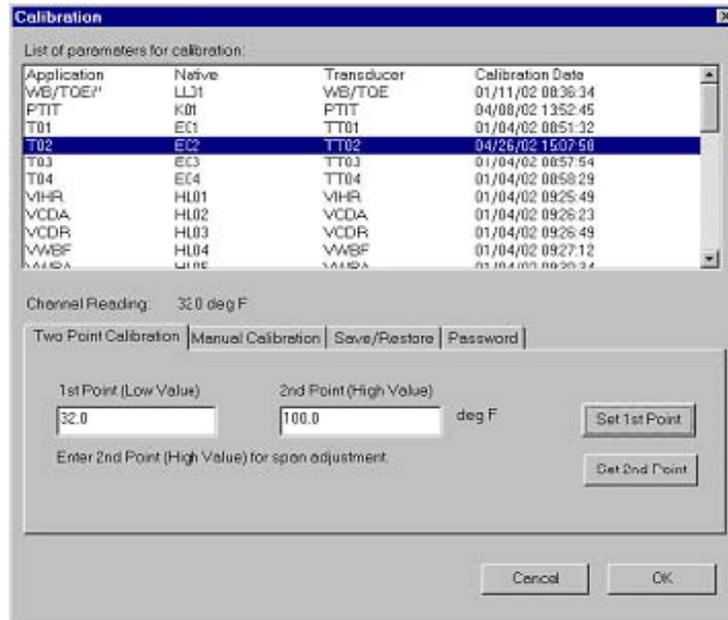

Figure 6. Calibration Set Point Screen
- (8) Click the desired application and OK. Calibration screen, Figure 6, will appear.
- (2) Perform the following Calibration Procedures.
- (3) Select the channel to be calibrated and double click. The operator will be prompted to enter the 1st point (low value) as shown in Figure 6.